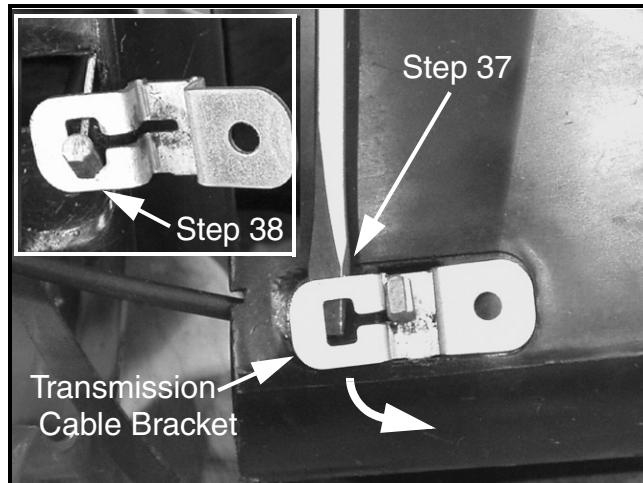

FIGURE 16
37. Using a large flat blade screw driver, remove the transmission cable bracket (clip-in fitting) from the main baffle. See Figure 16.
47. Feed the drive cable through the rectangular hole in the main baffle. Reinstall the drive cable barrel end onto the transmission cable bracket (clip-in fitting) as shown in Figure 16.
48. Snap the clip-in fitting into the main baffle's rectangular hole. Refer to Figure 16.